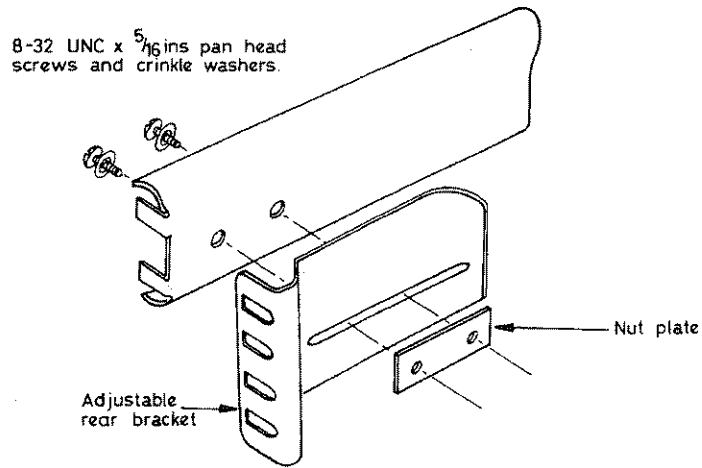

Fig A.6 *Fitting a rear bracket*
5.3.3 Fit the following items to the telescopic slide outer members, as shown in Figures A.6 and A.7: